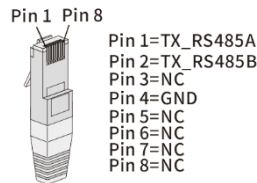

Fig. 21: Cable pin assignment
- 3 Configure the communication line as shown in Figure 21 (according to DIN 46228-4, provided by the customer).